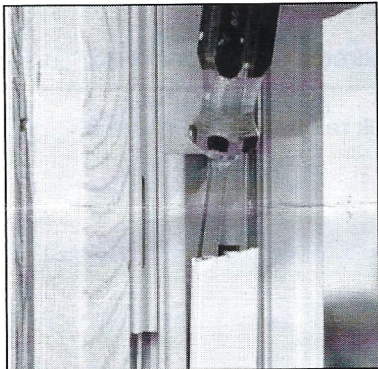

Figure 6
- Use the flathead screwdriver to remove the lower fillers from the jamb hardware assembly. This is best done by placing the flathead screwdriver into the space opened by the removed check rail pad. Loosen both corners of the jamb fillers from the notches before trying to remove them, to reduce the possibility of damage to the fillers. See figure 6.